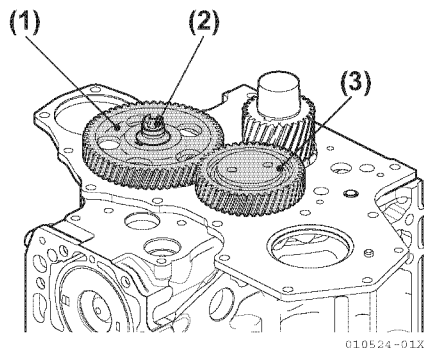

Figure 5-48
- 42. Loosen the three bolts holding the idle gear and pull out the idle gear and shaft (Figure 5-48).